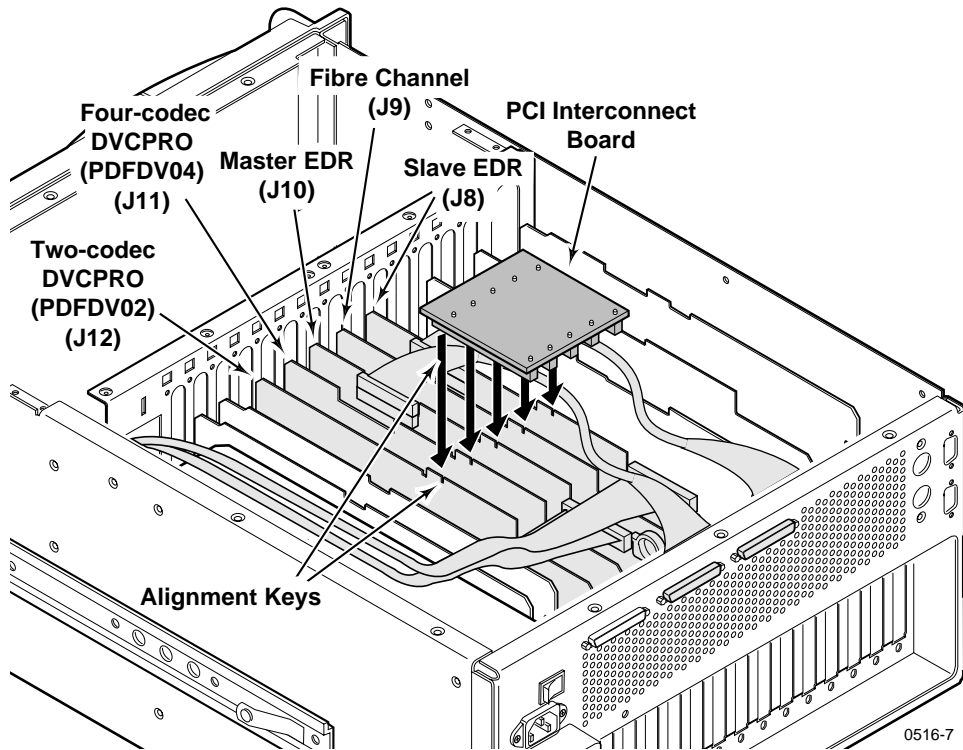

Figure 6. Installing the five-slotted PCI Interconnect board
6. Install the five-slotted PCI Interconnect board. This board is a high-speed bus used to move data between boards with PCI connectors. Align the center keys on the PCI Interconnect board with the keys on the Master EDR board in slot J10. Using appropriate pressure, press down firmly on the interconnect board to ensure that it is properly seated (see Figure 6).
8. Install the five-slotted PCI Interconnect board. This board is a high-speed bus used to move data between boards with PCI connectors. Align the center keys on the PCI Interconnect board with the keys on the Master EDR board in slot J10. Using appropriate pressure, press down firmly on the interconnect board to ensure that it is properly seated (see Figure 6 on page 29).
4. Install the five-slotted PCI Interconnect board. This board is a high-speed bus used to move data between boards with PCI connectors. Align the center keys on the PCI Interconnect board with the keys on the Master EDR board in slot J10. Using appropriate pressure, press down firmly on the interconnect board to ensure that it is properly seated (see Figure 6 on page 29).